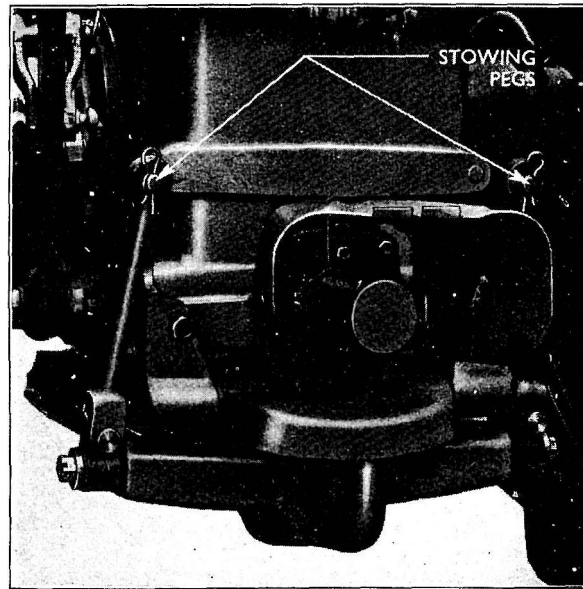

Fig. 4
1. With the hook assembly locked to the housing assembly, i.e. fully raised position, remove the hitch lifting rod lynch pins and disconnect the rods. Stow the rods on their appropriate pegs on the hitch housing bracket assemblies using the "hair pin" clips provided to retain them in position. (See Fig. 4.)